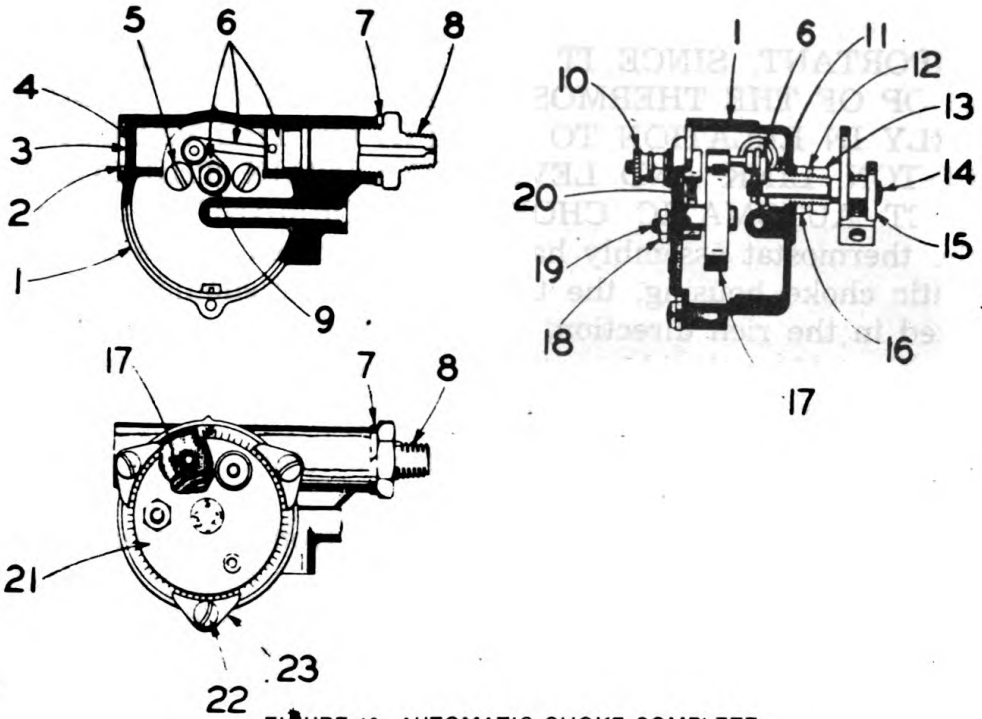

FIGURE 10—AUTOMATIC CHOKE COMPLETE
**19. Automatic choke (Figure 10)**